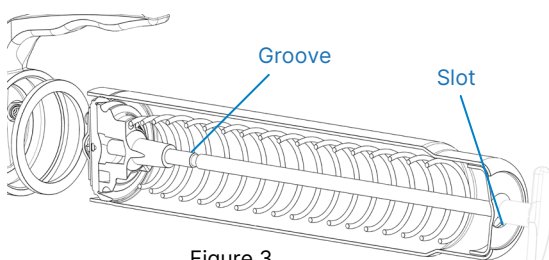

Figure 3
3. Pull the follower rod out until the groove in the rod aligns with the slot in the barrel end cap. Lock the rod into the end cap. (Figure 3).
4. Pull the rod until the groove in the rod aligns with the slot in the end cap, lock the rod into the end cap slot (Figure 3).